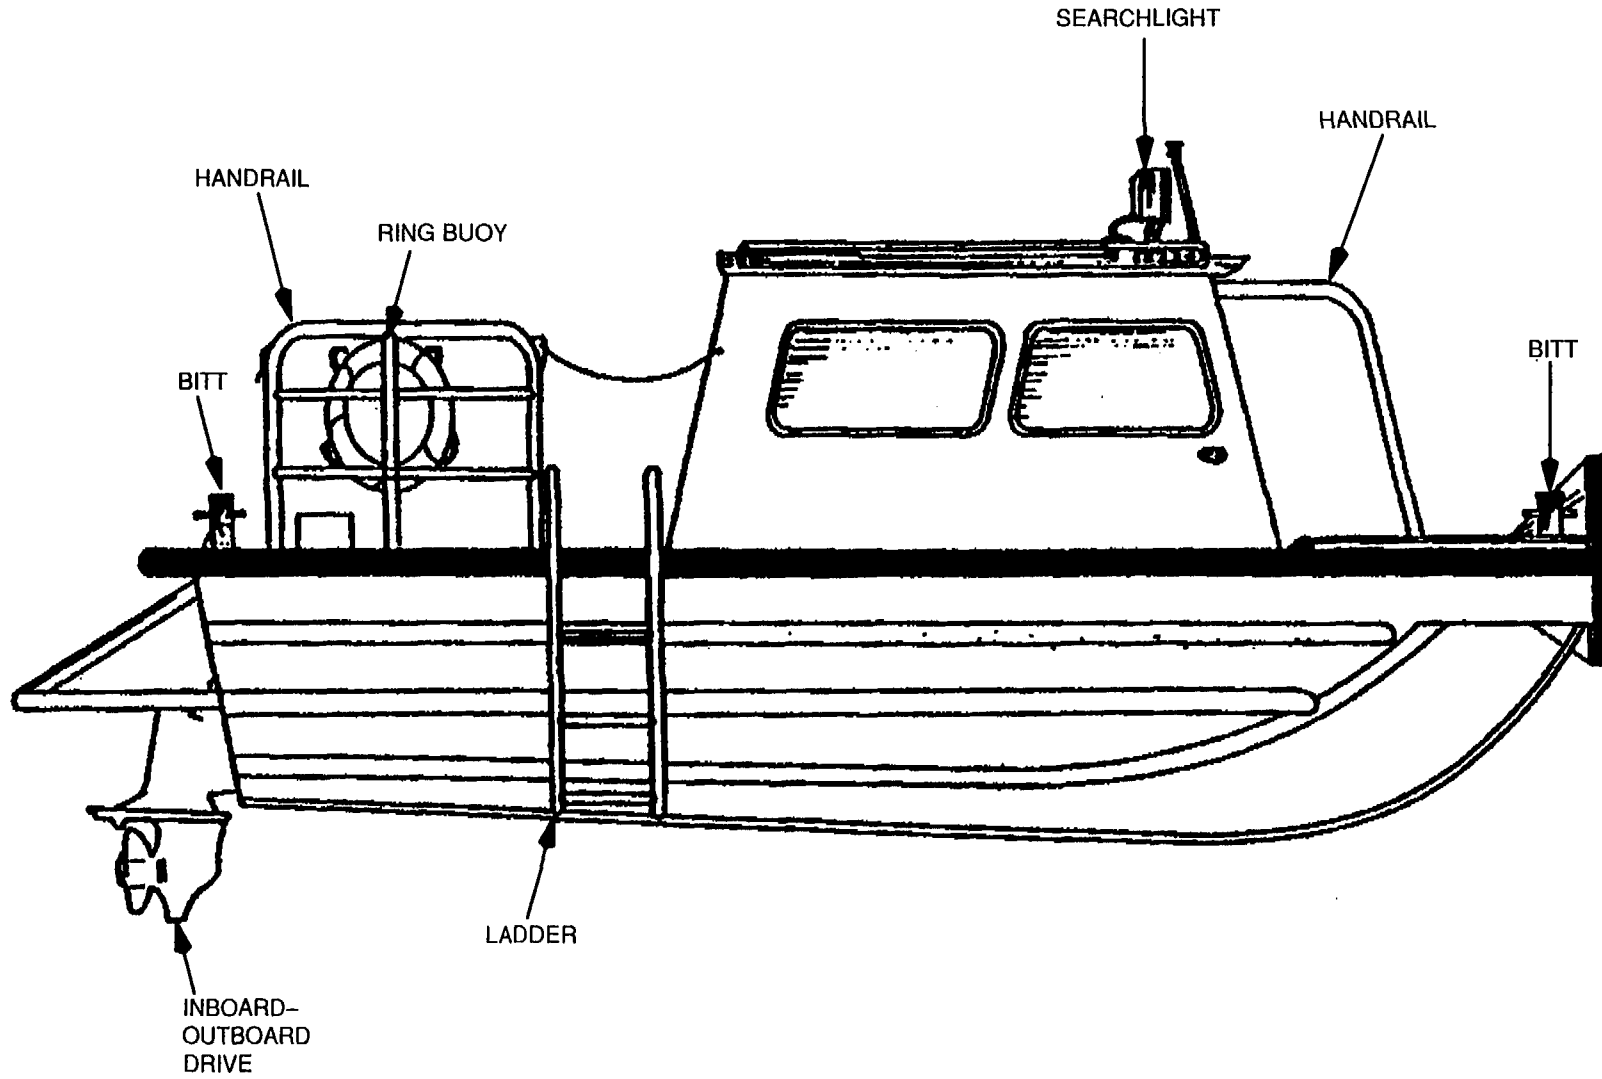

Figure 2-1. Workboat Profile
**2-2.1** Workboat (see Figures 2-1 and 2-2) is a 23-foot, reinforced aluminum-hulled, triple-V-bottomed craft with a forward cabin for six passengers plus the operator and a flush after-deck for small cargo and messenger line reel unit. Closed cell flotation foam has been used to fill the forward compartment, under the cabin floor, and small compartments on both sides of the engine compartment. Workboat has two push knees on the bow, an aluminum tubular protective frame around the outboard drive, and two bow and two stern mooring bits. Workboat has a diving ladder that fits into sockets on either port or starboard just aft of cabin and forward of aft guardrail. Lifesaving equipment includes eight lifevests stowed under cabin benchseats and a ring lifebuoy with floating marker light and line.